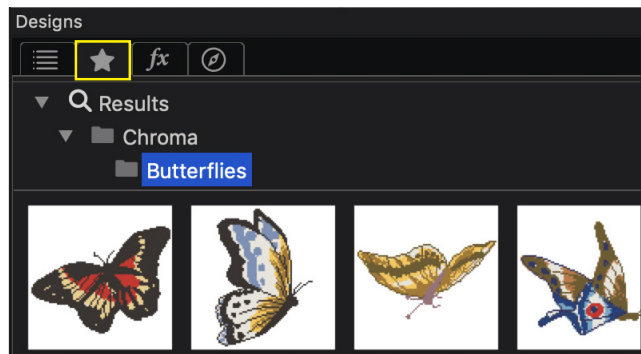

Figure 5
- Star icon: This is your Design Library. See Figure 5.